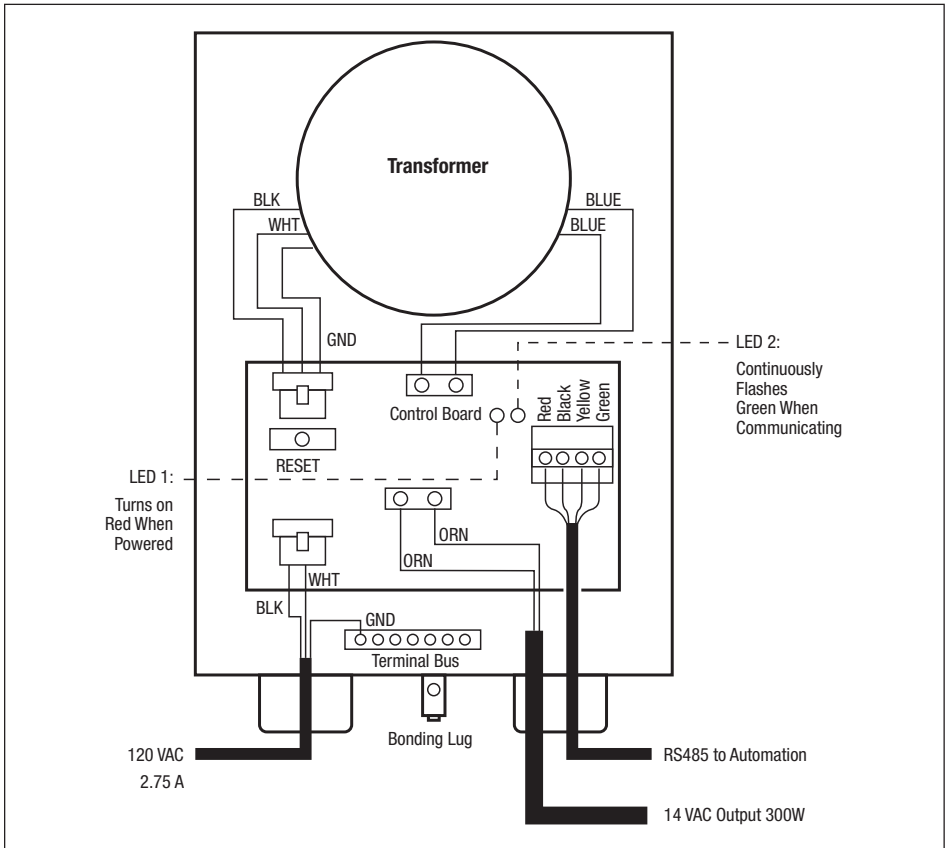

Figure 4. Wiring LED Lights to the Infinite WaterColors LED Light Controller
Refer to *Figure 4* for wiring the Infinite WaterColors LED Lights to the LED Light Controller. Refer to the Infinite WaterColors LED Light Controller manual for connecting to the AquaLink RS automation system.
3. Connect the low voltage wires, black wire to orange wire and white wire to orange wire, see *Figure 4*.